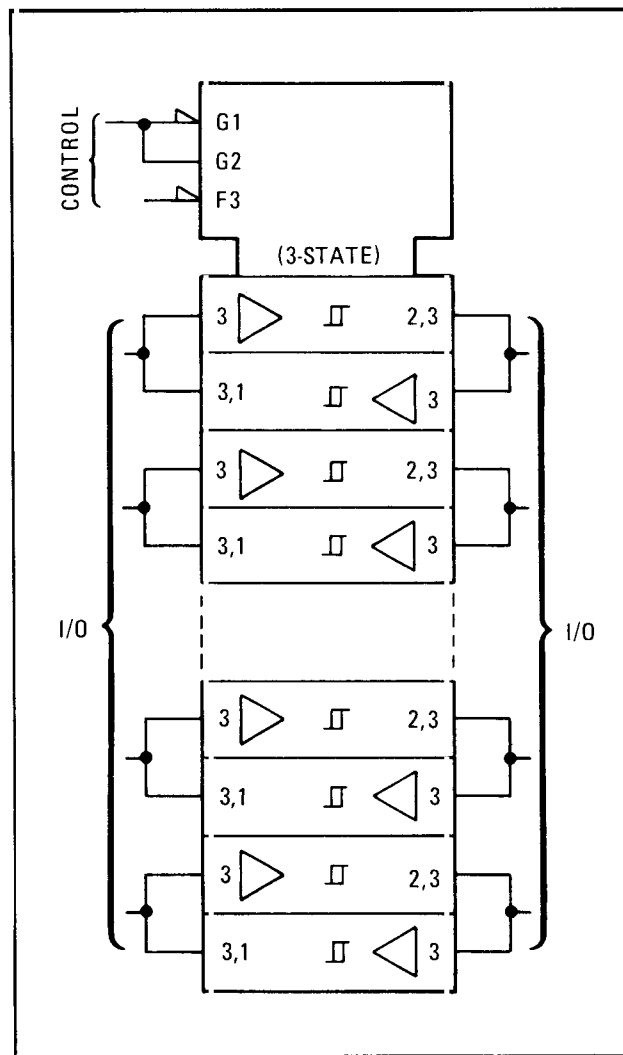

Figure 8-22. Multiple Bus Transceiver With 3-State Output
**Multiple Bus Transceivers.** Refer to Figure 8-22. This device is used as an interface between the Signal Generator's interface adapter and data bus. If the G2 input is high, the device will allow data to pass from the left-hand inputs to the right-